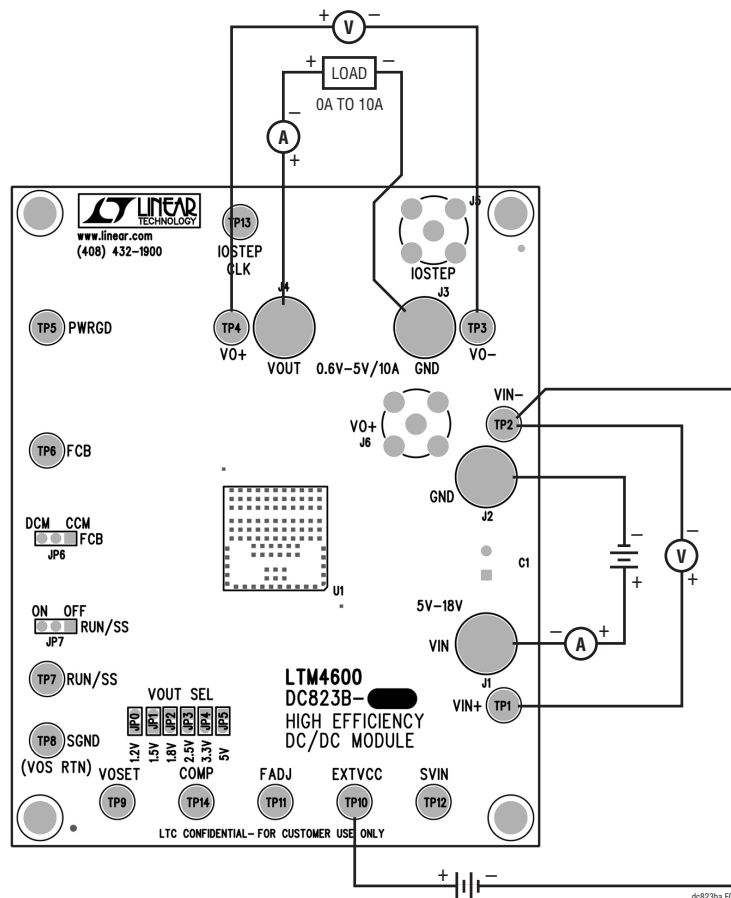

Figure 1. Test Set-Up of DC823B-B (EXT_{VCC} V_{BIAS} Supply is Optional)
Demonstration circuit DC823B-B is easy to set up to evaluate the performance of the LTM4600HVEV. Refer to Figure 1 for proper measurement equipment set-up and follow the procedure below:
2. With power off, connect the input power supply, load, optional 5V bias supply and meters as shown in Figure 1. Preset the load to 0A and V_{IN} supply to be less than 28V. The optional 5V bias supply applied to the EXT_{VCC} pin must be off while the main V_{IN} is turned off.